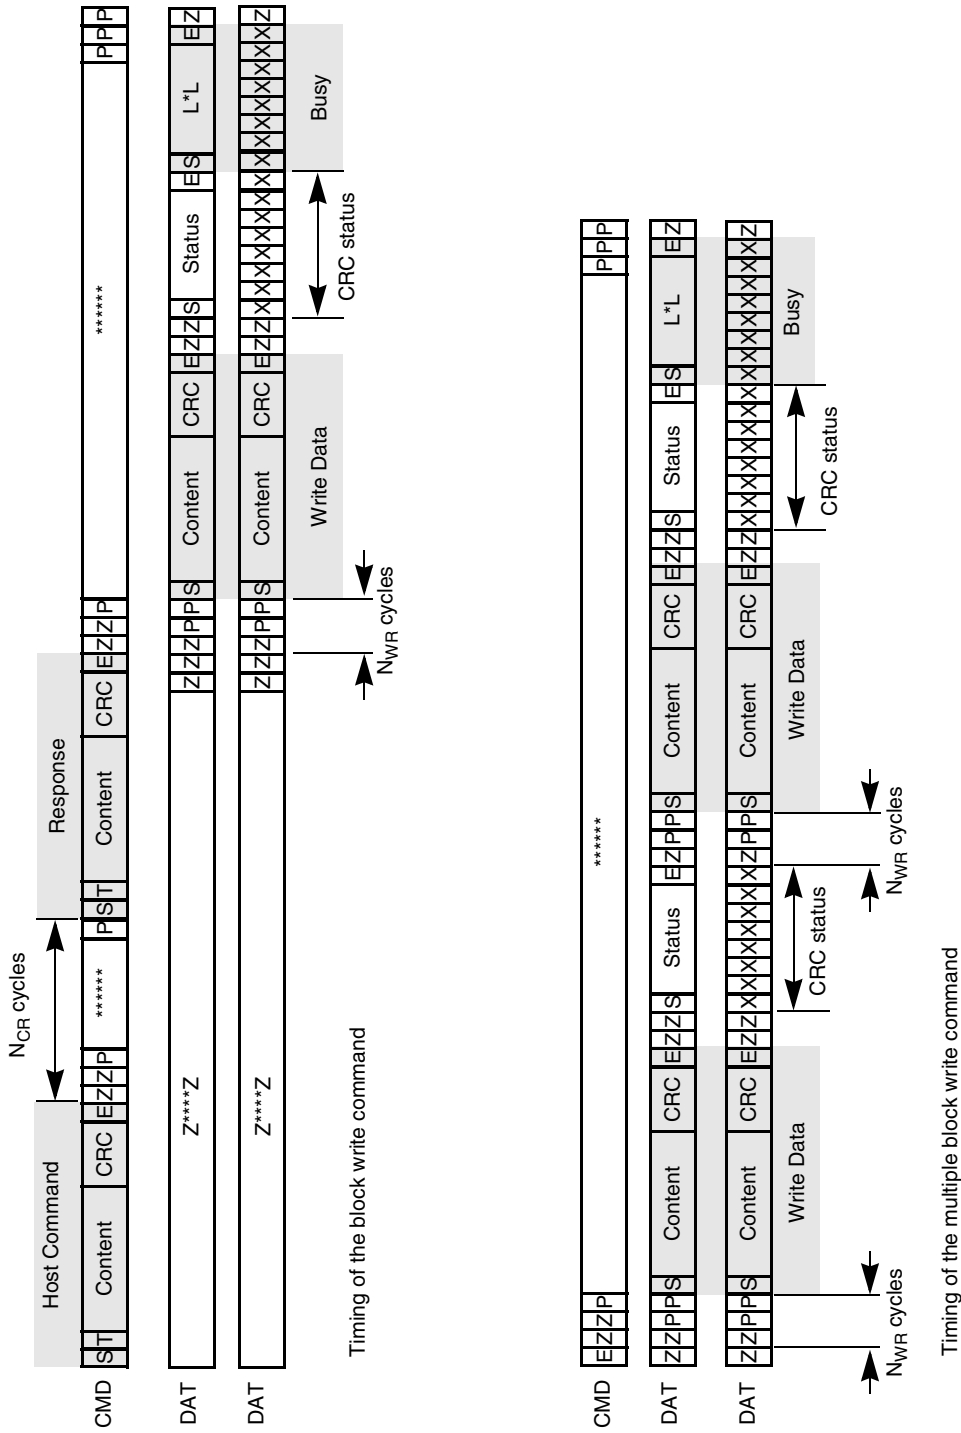

Figure 46. Timing Diagrams at Data Write
Figure 46 shows the basic write operation timing. As with the read operation, after the card response, the data transfer starts after  $N_{WR}$  cycles. The data is suffixed with CRC check bits to allow the card to check for transmission errors. The card sends back the CRC check result as a CC status token on the data line. If there was a transmission error, the card sends a negative CRC status (101); otherwise, a positive CRC status (010) is returned. The card expects a continuous flow of data blocks if it is configured to multiple block mode, with the flow terminated by a stop transmission command.